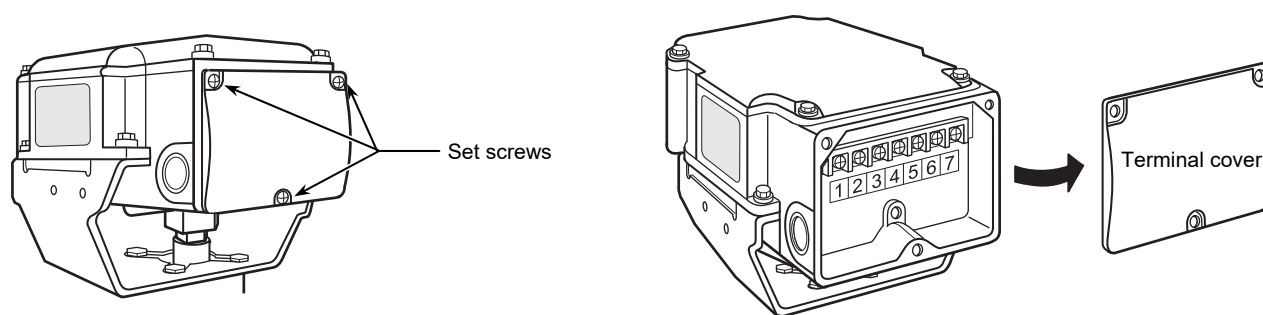

Figure 12. Terminal cover removal
- 2) Unscrew the 3 setscrews (M4 × 10) of the terminal cover and remove the terminal cover, as shown in Fig. 12.